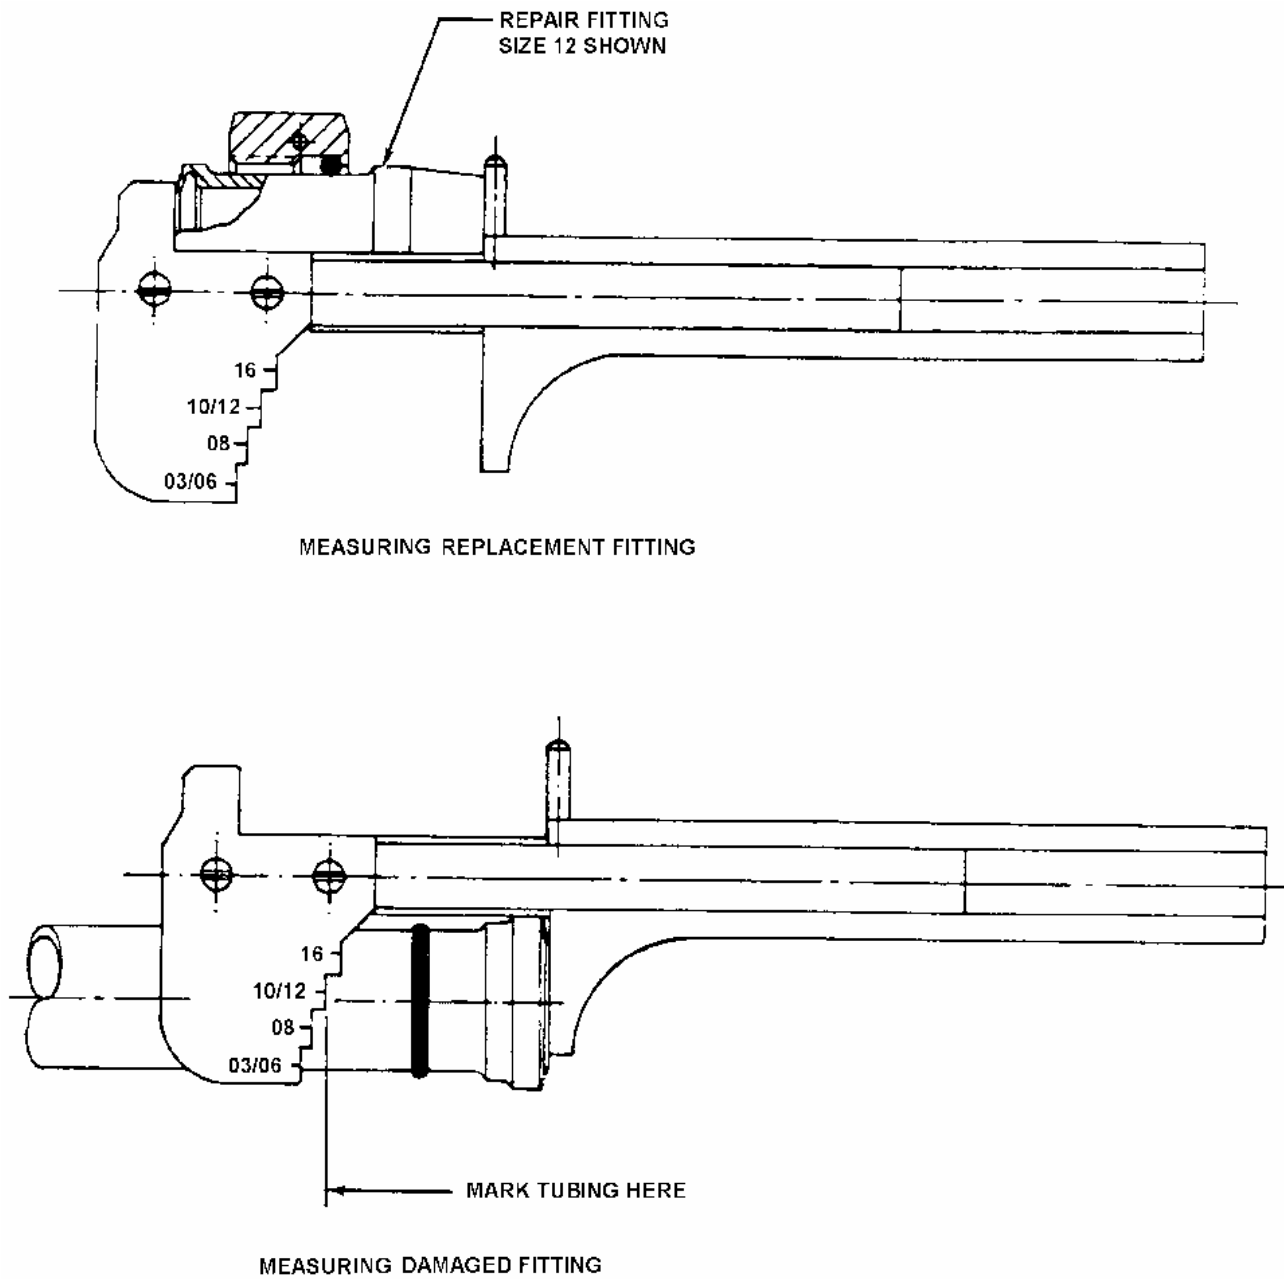

Figure 17. Measuring Fitting with Tube Marking Gage R24837-16-40 (50599)
- a. Use tube marking gage R24837-16-40 (50599) to measure replacement fitting as shown in Figure 17.
- b. Without moving slide setting made in step a, remove replacement fitting and measure damaged fitting as shown in Figure 17.